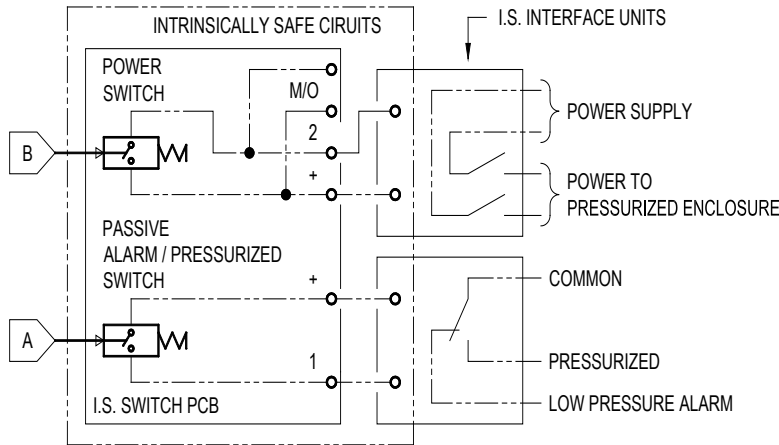

Figure 4 Intrinsically Safe (IS) Circuit Diagram
1. Connect the corresponding power interlock and alarm/pressurization signal cables to the corresponding terminals inside the Control Unit. Refer to Figure 4 below.